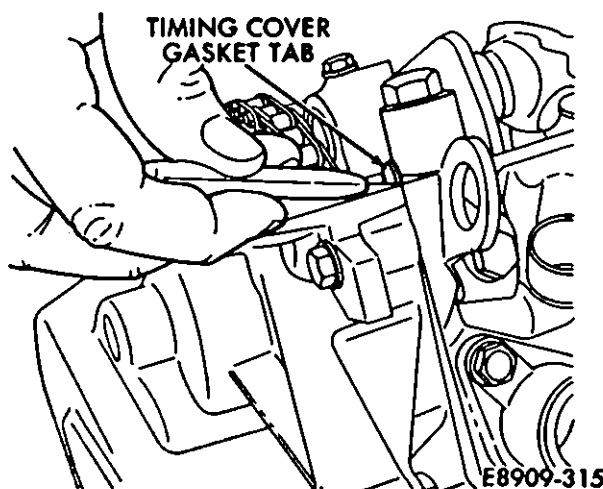

Fig. 10—Timing Cover Gasket Tab
(7) Cut the timing cover gasket tabs flush with the head (Fig. 10). The tabs protrude above the front cover and cylinder head.